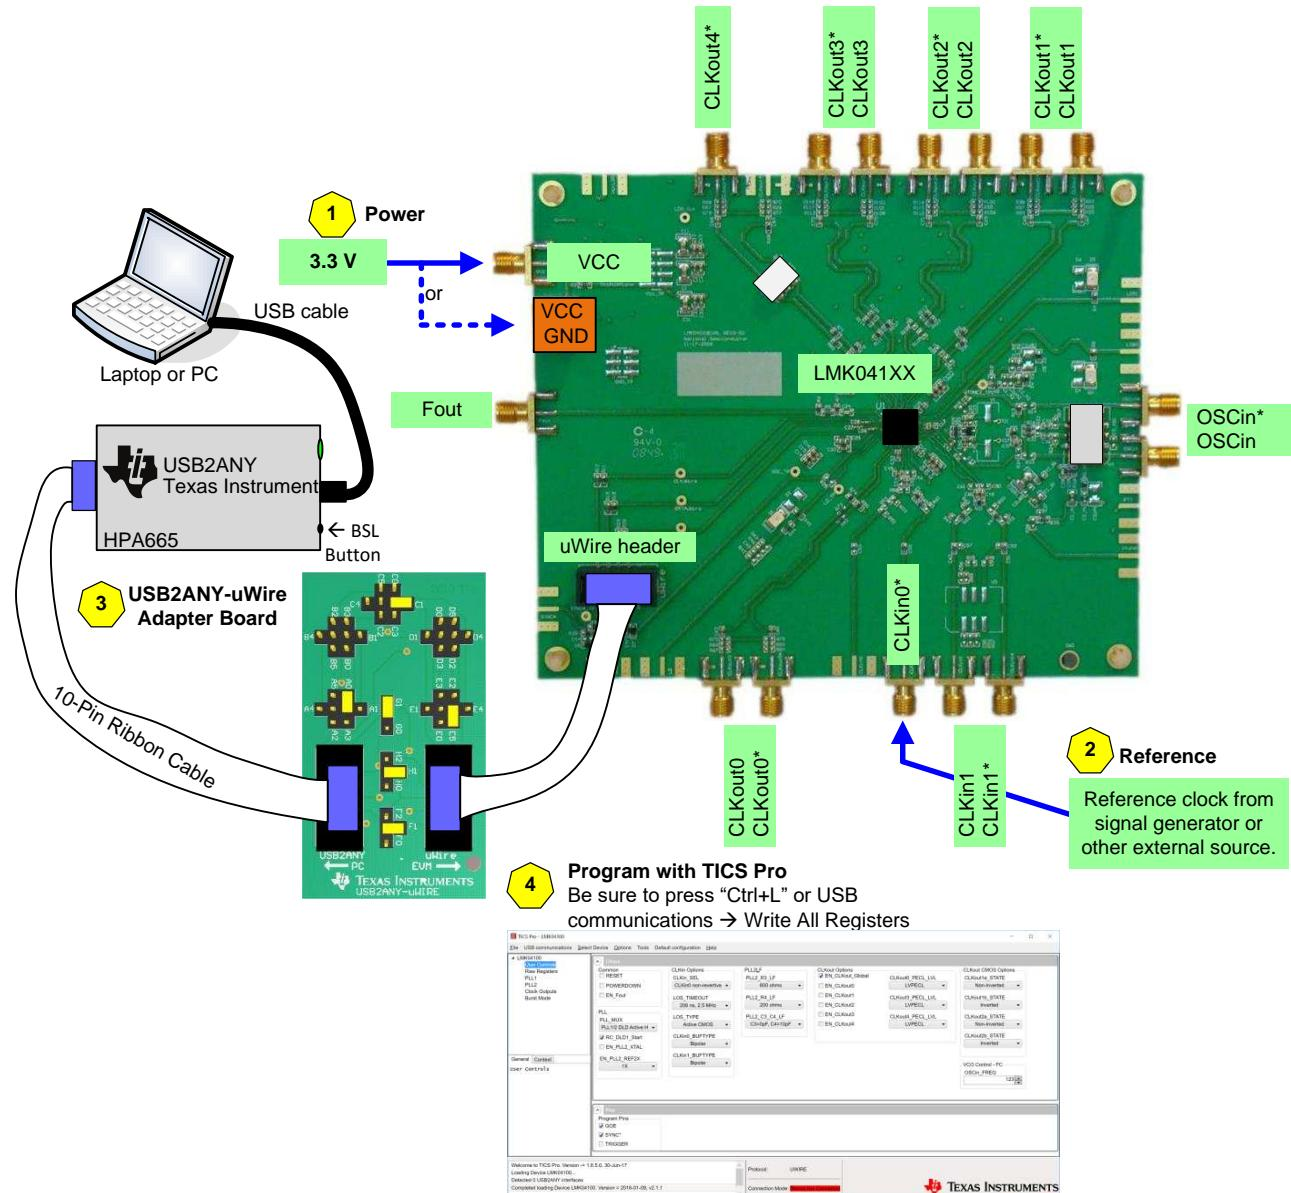

Figure 1. Quick Start Diagram
3. Connect the PC to USB2ANY. Connect the USB2ANY-uWire Adapter Board from USB2ANY with a 10-pin ribbon cable. Install jumpers as shown in Figure 1 and connect another 10-pin ribbon cable to the uWire header on the EVM.